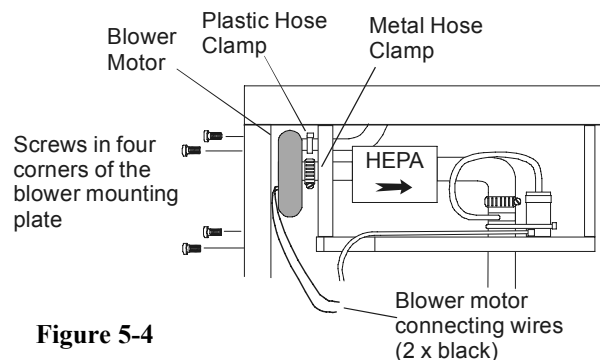

**Figure 5-3**
5. Cut and remove the two outermost tie wraps which secure the enclosure to the base of the platform. The tie wraps are fed through rubber grommets. (Figure 5-3)
**Note:** If there is a vibration with the air pump, creating an undesirable noise or shelf vibration, remove all four of the tie wraps on the outer corners of the enclosure (Refer to Figure 5-3).
4. Locate the inline water filter. (Refer to Figures 5-3 and 5-4)